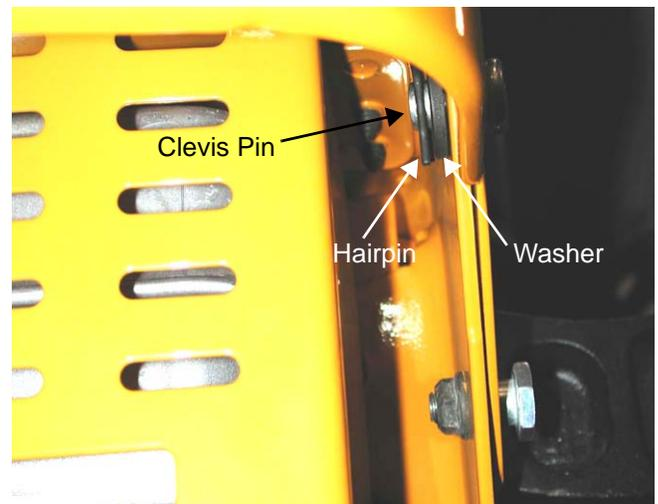

Figure 37.3
37.3. Remove the hairpins, flat washers and clevis pins (or screws) securing the front bumper to the tractor frame. See Figure 37.3.